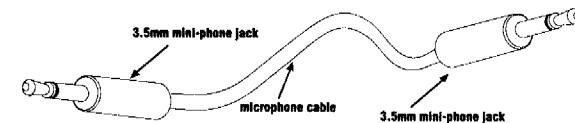

Figure 10
4. Using a 3.5mm mini-phone jack (NOT SUPPLIED- see figure 10) for both the output and input, SOLDER a small gauge microphone cable to both mini-phone jacks. Make sure that the cable is at least 4 inches longer than the measured distance. This will allow for running the cable with gentle bends to each amplifier.